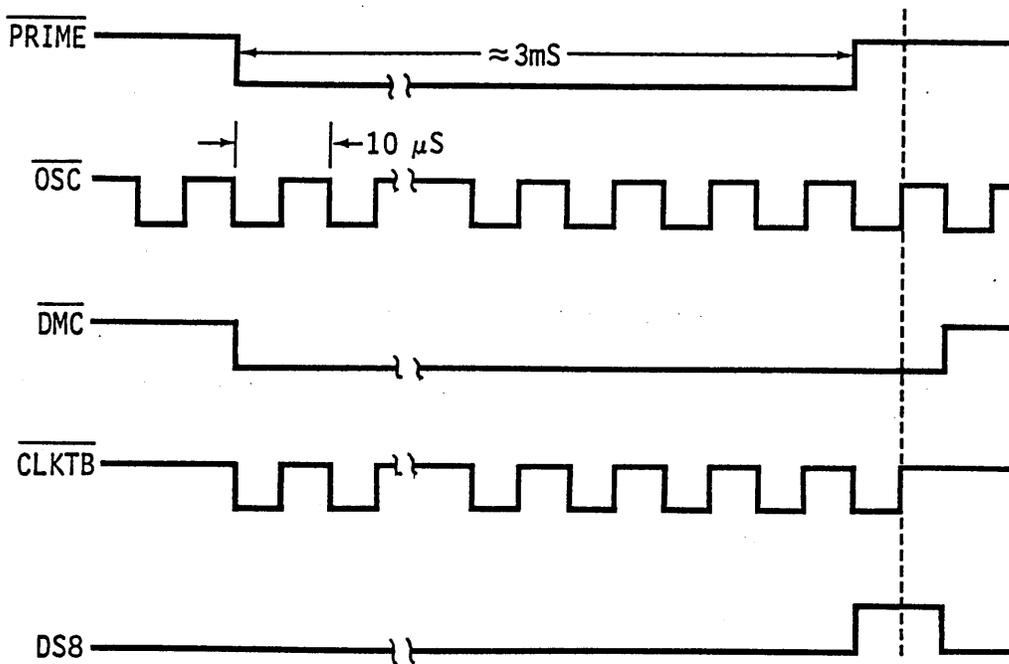
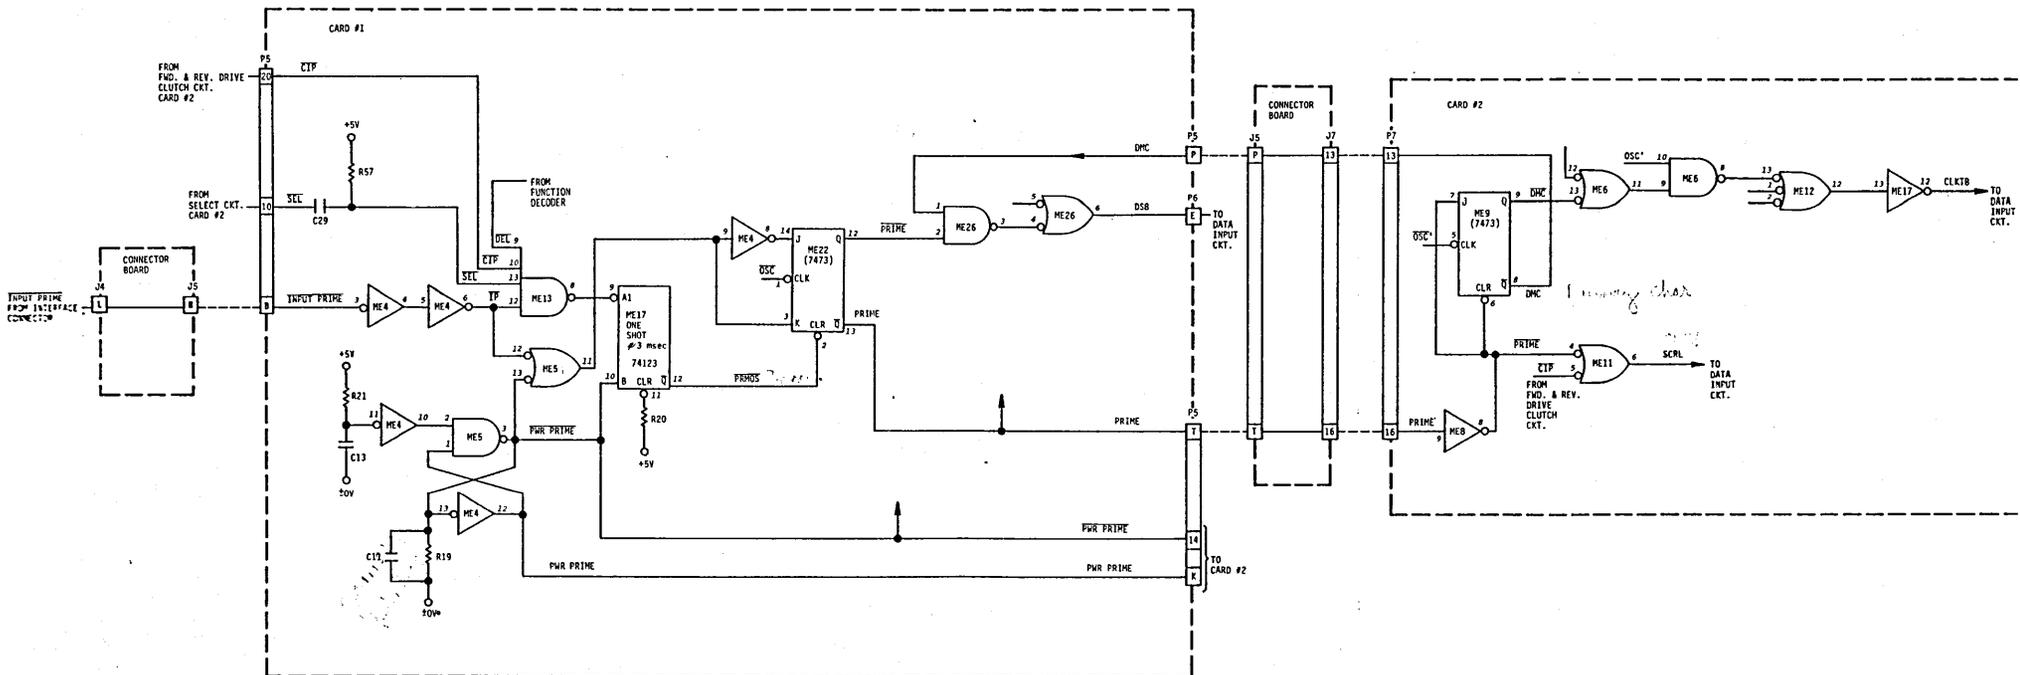

Figure 4-4. PRIME TIMING
Figure 4-5. PRIME CIRCUIT
4.3.1 PRIME CIRCUIT (Figure 4-4, Timing; Figure 4-5, Circuit)
The prime circuit resets the printer logic, clears the buffer, and places a dummy character in the first character position in the buffer. A timing diagram of the prime timing is shown in Figure 4-4.